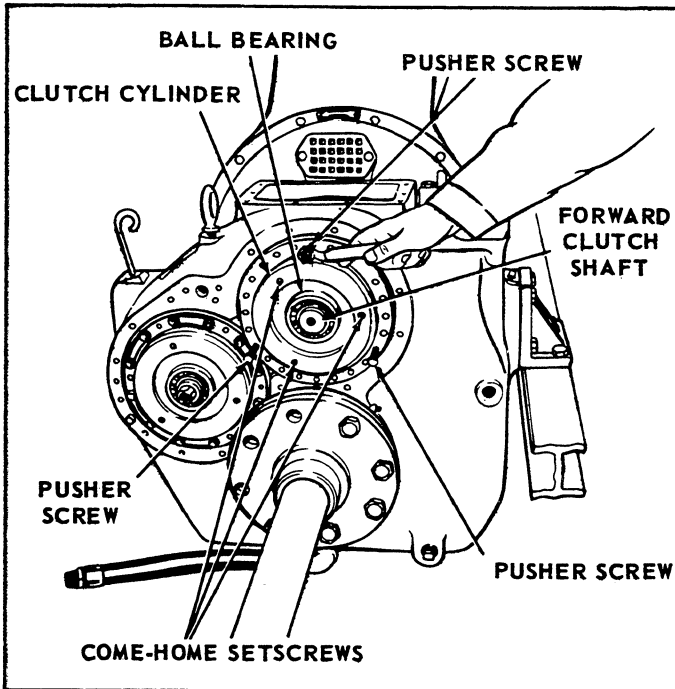

Figure 27. Removing the Clutch Cylinder from the Clutch Spider with Pusher Screws.
(9) Install pusher screws (Fig. 27) in the three 3/8-16 UNC tapped holes in the clutch cylinder. Alternately screw the pushers, and remove the clutch cylinder and the clutch piston from the clutch spider, and the ball bearing (Fig. 27) from the forward clutch shaft. Separate the cylinder and piston, and remove a piston ring from each part only if replacement of parts is necessary.